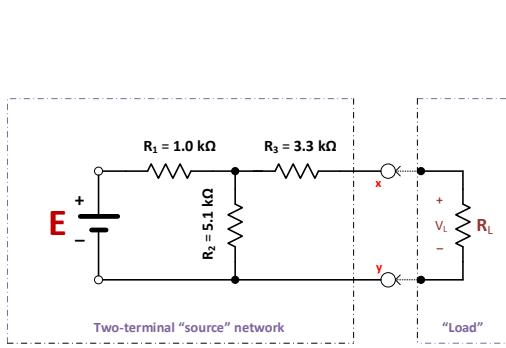
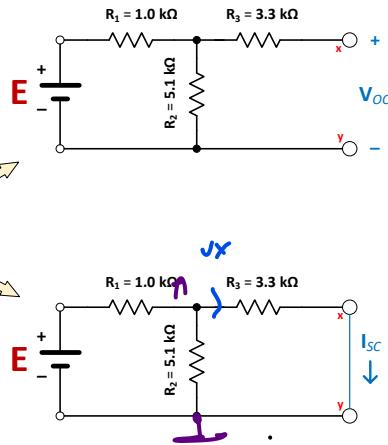
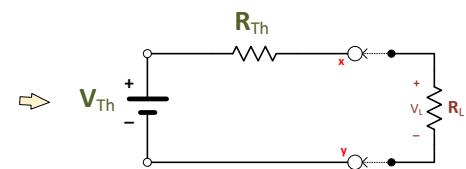

Figure 2.0a: Original Circuit
Figure 2.0b: In-circuit measurements for  $V_{Th}$  and  $R_{Th}$
Figure 2.0c: Thevenin Equivalent Circuit
- (i) For the circuit shown in **Figures 2.0a** and **2.0b**, consider the input D.C. source voltage,  $E = 10 \text{ V}$ .
(1) Determine the Thevenin's equivalent circuit of the two-terminal source network in **Figure 2.0a** by finding the Thevenin voltage,  $V_{Th}$  and the Thevenin resistor,  $R_{Th}$  as shown in **Figure 2.0c**; (2) referring to circuits in **Figure 2.0b**, use either nodal-voltage or mesh-current technique to find the respective open-circuit voltage,  $V_{oc}$  and short-circuit current,  $I_{sc}$ ; and (3) use the Thevenin equivalent circuit model in **Figure 2.0c** to show that  $V_{Th} = V_{oc}$ , and  $R_{Th} = V_{oc}/I_{sc}$ . Show all your analysis below, and record your results in **Table 2.0**.
(ii) Construct the circuits of **Figure 2.0b** in MultiSIM, and measure corresponding open-circuit voltage,  $V_{oc}$  and short-circuit current,  $I_{sc}$ ; and then determine  $V_{Th}$  and  $R_{Th}$  from these values. Record your results in **Table 2.0**.
Consider the circuit in **Figure 2.0c**.
- (iii) Construct the circuit of **Figure 2.0a** in MultiSIM but use the **5 kΩ** potentiometer,  $R_P$  as the variable load resistance,  $R_L$  illustrated below in **Figure 2.0d**. Set the input D.C. source voltage,  $E$  to **10V**. Monitor the load voltage,  $V_L$  across  $R_P$  with the DMM Voltmeter. Adjust the potentiometer until this output voltage,  $V_L = V_{Th}/2$ , at which point theoretically the maximum power transfer should occur per the theorem (note: refer your earlier Pre-Lab analysis for the  $V_{Th}$  value). Record your measured values of  $V_L$  and  $R_L$  in **Table 3.0**.
Implement the respective circuits in **Figure 2.0b** on your breadboard using the resistor values as shown. Set the input D.C. source voltage, **E** to **10V**. Turn OFF the power supply.
2. For the circuit at the top in **Figure 2.0b**, use the DMM Voltmeter to measure the open-circuit voltage,  $V_{oc}$  between the open-circuit terminals “x” and “y”. Record your result in **Table 5.0** below.
3. For the circuit at the bottom in **Figure 2.0b**, use the DMM Ammeter to measure the short-circuit current,  $I_{sc}$  through the short-circuit wire between terminals “x” and “y”. Record your result in **Table 5.0** below.
**Table 5.0:** Experimental results of the Figure 2.0b circuits
Implement the circuit of **Figure 2.0a** in MultiSIM; set the input D.C. source voltage, **E** to **10V**, and use a potentiometer as the variable load resistance, **RL**.